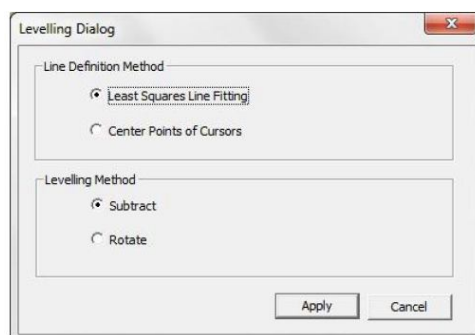

Figure 18. Levelling Dialog Box
- Right click on the profile window and select 'Leveling' which shows various options as illustrated in figure 18.